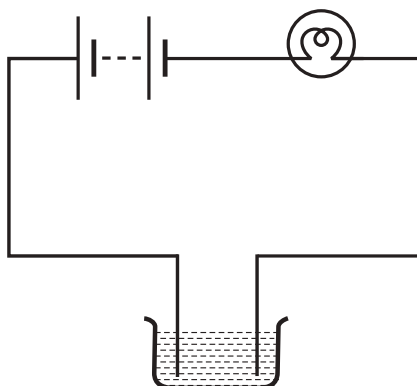

Fig. 14.10
4. The bulb does not glow in the setup shown in Fig.14.10. List the possible reasons. Explain your answer.